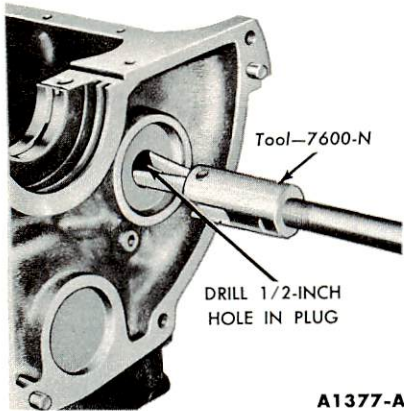

FIG. 40—Camshaft Rear Bore Plug Removal
30. Drill a 1/2-inch hole in the camshaft rear bearing bore plug and remove the plug as shown in Fig. 40.